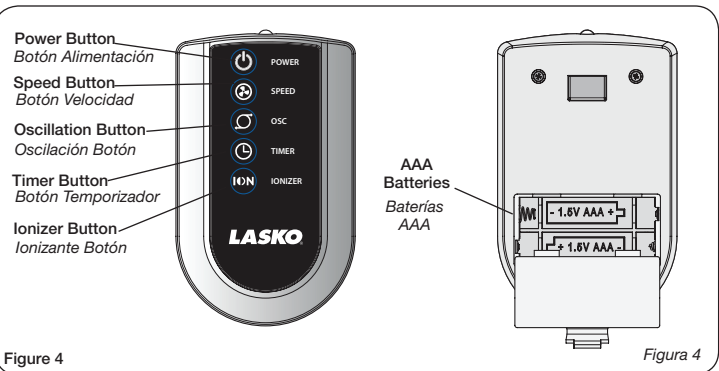

Figure 4
1. Install batteries as shown in Figure 4. The battery is size "AAA".
This Fan may be operated by the Manual Controls located on front of the unit or by the Remote Control (shown in Figure 4).